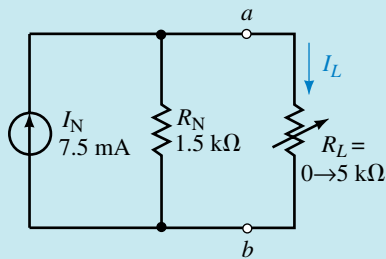

FIGURE 9-37
Step 6: The Norton equivalent circuit is shown in Figure 9-37.